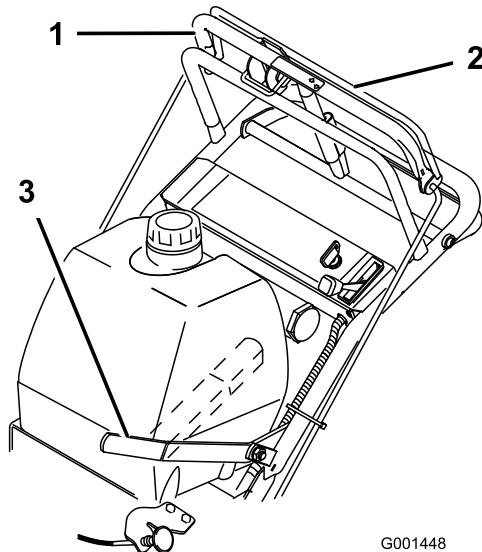

Figure 9
- To engage the blades, squeeze blade control bail against the upper control bar (Figure 9).
To disengage the blades, pull the blade control lever rearward all the way (Figure 9). The engine will kill when the blade control bail is released with the blade control lever engaged.